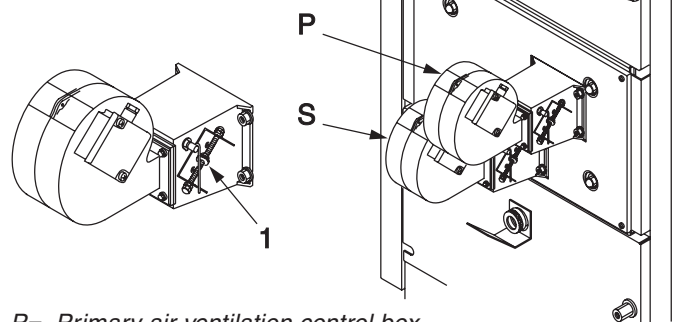

fig. 48
The initial position of the ring nuts (pos. 1, fig. 48) which control the opening or closing of the primary and secondary air, **has to be about in the middle of the threaded rod.**
At this point, "**screw**" or "**unscrew**" the ring nuts (pos. 1, fig. 48) on the threaded rod until you have an optimal air regulation, by observing the colour of the flame in the combustion chamber; keep in mind that by rotating the ring nuts in a clockwise direction (that is upwards) you will have an increase of the emission of the air (primary or secondary), vice versa, a reduction.
The GASOGEN G3 65 2S and GASOGEN G3 80 2S boilers are equipped with two fans (fig. 48) which incorporates a non-return valve, controlled by external ring nuts. The upper fan supplies the primary air, the lower fan the secondary air.